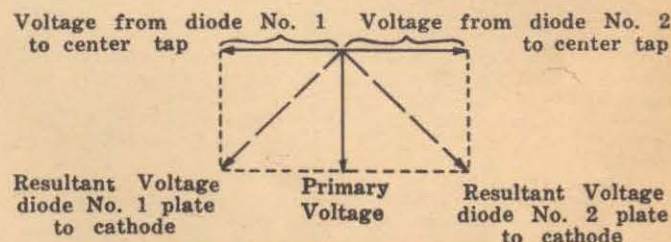

FIG. 13 DISCRIMINATOR VECTOR DIAGRAM AT RESONANCE
If the secondary is now brought into proximity with the primary, a voltage will be induced into the secondary by flux from the primary current. The following step-by-step explanation of the phase relations, together with reference to the vector diagrams in Fig. 13, shows the operation of the discriminator.
4. Since the applied primary voltage also appears between the center-tap of the secondary and ground, it is obvious that the total effective voltage between diode No. 1 and cathode is equal to the voltage across half of the secondary in series with the voltage across the primary. Similarly, the voltage between No. 2 diode and cathode is the voltage across the No. 2 half of the secondary in series with the voltage across the primary. Since it has been shown above that there is a 90 degree phase difference between the primary voltage and the voltage across each half of the secondary, these voltages cannot be added arithmetically, but must be added geometrically. Fig. 13 shows the vector representation of this addition.